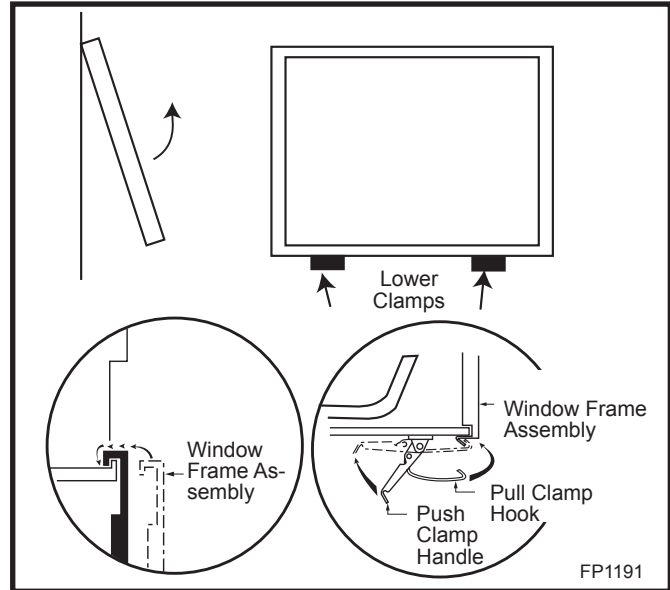

Fig. 11 Window frame assembly removal.
6. Lift off the window frame assembly as shown. (Fig. 11)